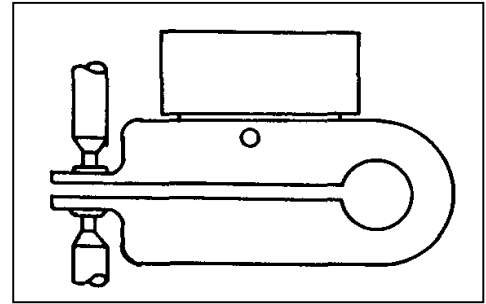

Figure 3-2. Using a Force Gauge to Measure the Weld Firing Force
- 5 Figure 3-2 shows how a Unitek Peco Force Gauge can be used to set-up and measure the actual Welding Force . Force Gauges are available in 100 lbs.(FG100), 200 lbs. (FG200), and 100 Kgs. (FG100KG) models.
- 13 Insert a Force Gauge between the electrodes as shown in Figure 3-2. Depress and hold the Footswitch. If the Firing Switch does not close, turn the TOP AIR PRESSURE REGULATOR clockwise until the Firing Switch "clicks". Note the force indication on the Force Gauge when the Weld Head Firing Switch "clicks" and then release the Footswitch. If the Firing Switch closure is inaudible, it is easily detected by connecting an Ohmmeter or continuity checker to the Firing Switch Connector pins. If